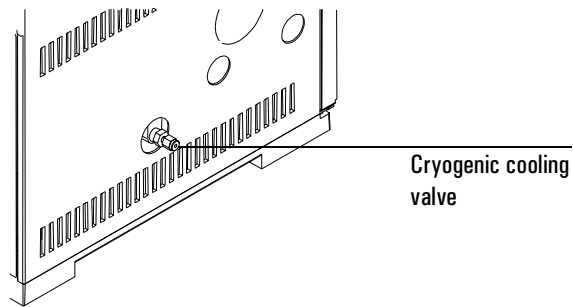

Figure 18. Location of cryogenic cooling valve
2. Locate the inlet for coolant on the left-hand side of the GC. Prepare enough tubing to reach from the supply tank to this outlet. See Figure 18.